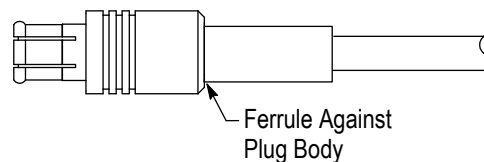

Figure 2
- Slide the ferrule onto the cable. Strip the cable to the dimensions shown in Figure 2, Detail A. Take care not to nick the center conductor. Flare the cable braid.
- Fit the center contact over the cable center conductor so that the contact butts against the dielectric. See Figure 2, Detail B.
- Insert the crimped center contact into the back of the plug body until the contact bottoms. See Figure 2, Detail C.
5. Slide the ferrule over the cable braid until the ferrule butts against the plug body. See Figure 2, Detail D.